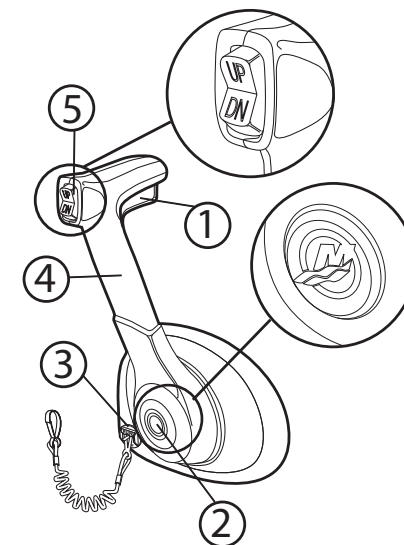

FIGURE 6-1 TYPICAL THROTTLE SHIFT CONTROL
The Engine Owner's Manual included with your Owner's Packet has detailed information about the throttle/shift control installed on your boat. The control serves two purposes: (1) it regulates the engine speed and (2) it acts as a gear shift lever to control the rotation of the propeller. When the handle is in the center, the gearshift is in neutral. As you move the handle forward and backward, you should feel the handle drop into a detent when the handle moves into the NEUTRAL position. The engine will not start unless the control is in NEUTRAL. Figure 6-1 shows a typical control.